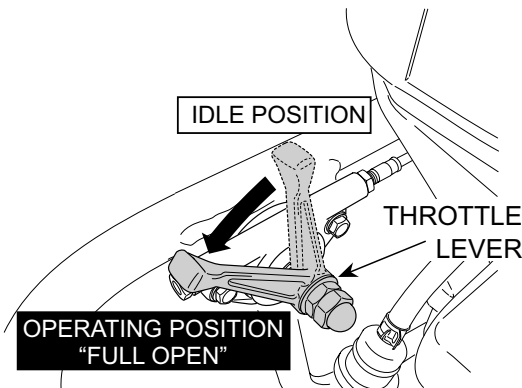

Figure 15. Throttle Lever (Full Open)
10. To start the rammer tamping action, move the throttle lever (Figure 15) quickly from **IDLE** (close) to the **FULL OPEN** position. **DO NOT** move the throttle lever slowly as this may cause damage to the clutch or spring.